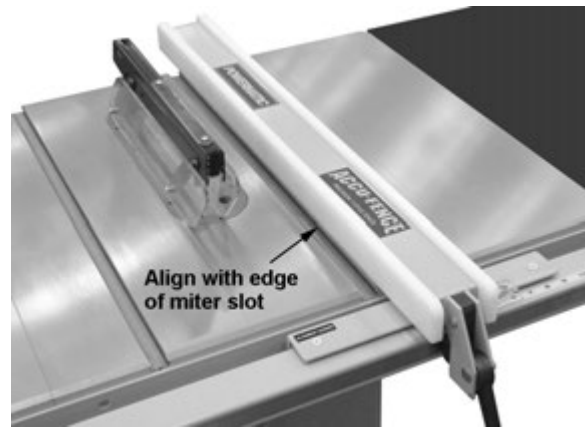

Figure 18
1. Place the fence next to the outside edge of the right miter slot and lock it (Figure 18).
2. Place a square (Figure 18) on the table next to the fence. The fence sides should be 90° to the table.